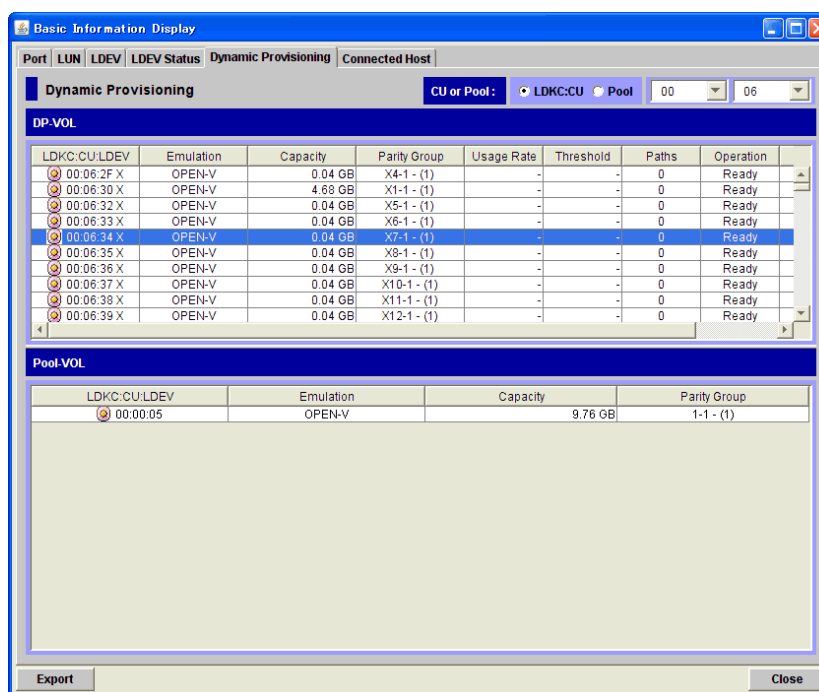

Figure 5-2 Viewing the Dynamic Provisioning Information
2. Click the **Dynamic Provisioning** tab to display the **Dynamic Provisioning** window (see Figure 5-2). Click **LDKC:CU** to view information sorted by CU number. Click **Pool** to view information sorted by pool.